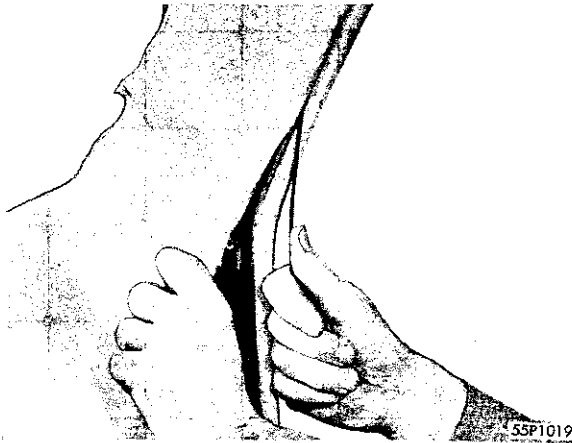

Fig. 39—Removing the Headlining with a Stiff Wire
(1) Remove the dome light assembly and rear seat cushion assembly as well as the sun visor and the upper windshield garnish moulding.
(2) Pull the rear window weatherstrip out at the top and down the side of the rear window opening as shown in Figure 39.
(3) Pull the headlining out from under the rear package shelf and away from the rear quarter panel and wheel housing.
(4) Pry the headlining retainer strip, with a screw driver, away from the roof rail above the doors. (The headlining is cemented in place over the windshield header and at the rear window body opening.) To remove the lining remove the cemented front and rear sections of the headlining from the windshield